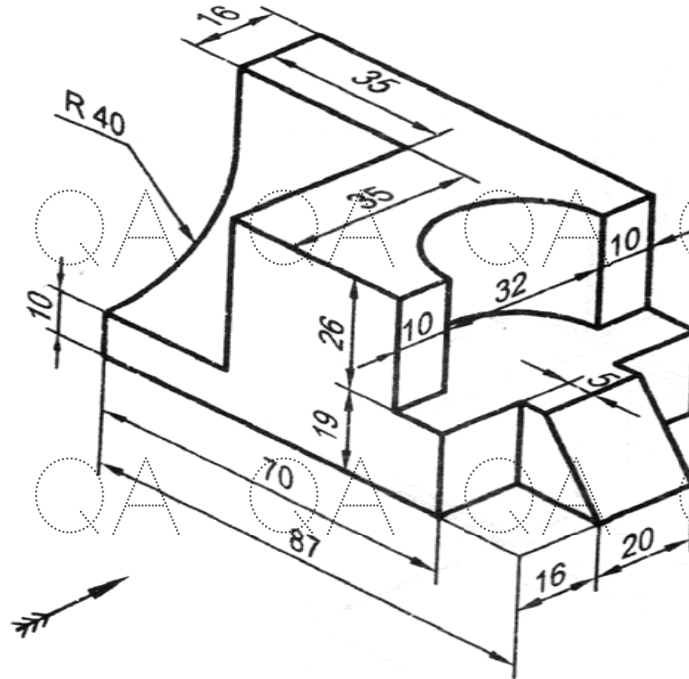

Figure 1
10. Draw the front view, top view and side view for the given figure 1. All the dimensions are in mm. [10]